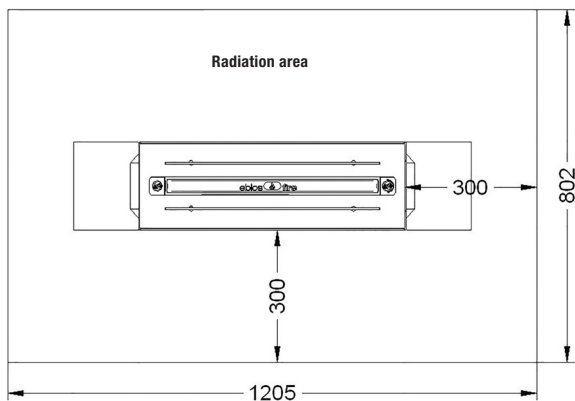

Fig. 4
In order to guarantee sufficient thermal insulation, there must be a minimum distance of 300 mm (see Fig. 4) to flammable components, furniture, decorations and curtains! There must be no objects between the ebios-fire furniture and room ceiling (distance to the ceiling > 1000 mm)!
- No combustible objects may be placed or laid on the free surfaces of the ebios-fire. Do not place items of clothing on the ebios-fire furniture to dry. Racks for drying clothing may only be placed outside the radiation area (Fig. 4)! **Fire risk!**